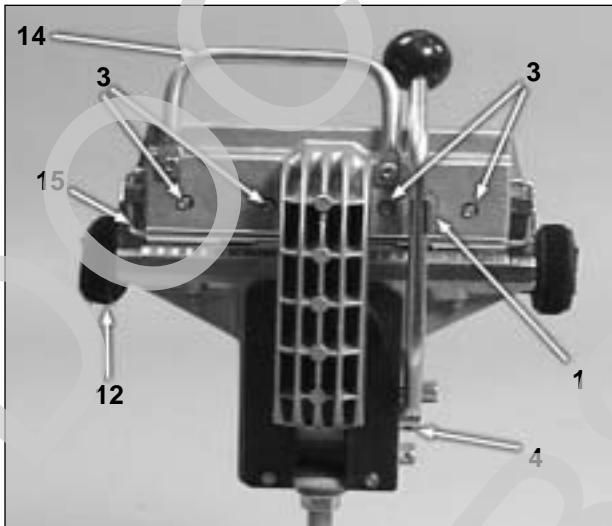

Figure 2
3. Blade Retaining Screws (fig. 2 & 3)
4. "T" Bar Locking Knob (fig. 2 & 3)
14. Carrying/Operational Handle (fig. 2 & 3)
2. To disengage the "T" bar from the locked position, turn the locking knob until the flat section releases the "T" bar. (fig. 2 & 3 #4)
12. With the conductors seated and cut, return the handle to the upright and engage it firmly within the handle retaining clip. (fig. 2 #1) Position the "T" bar clear of the module assembly area.
19. With the conductors seated and cut, return the handle to the upright and engage it firm within the handle retaining clip. (fig. 2 #1). Position the "T" bar clear of the module assembly area.